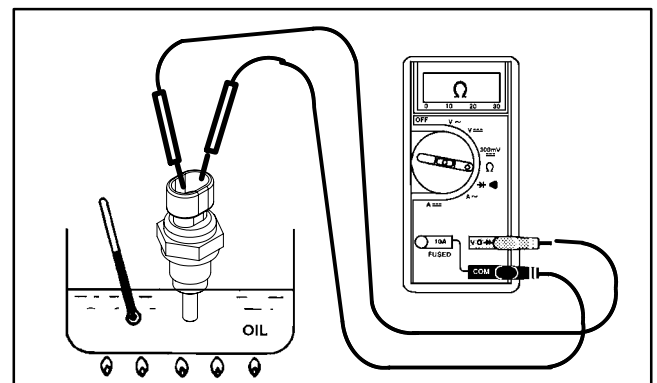

Figure 41
5. Put sensing end of sender in a container of oil with a thermometer and slowly heat the oil (Fig. 41).